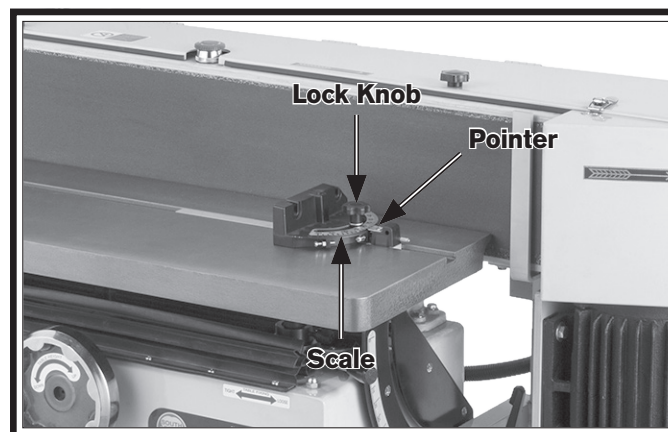

Figure 46. Miter gauge adjustment components.
2. Loosen lock knob shown in **Figure 46**.
3. Rotate miter gauge until pointer on scale indicates desired angle (see **Figure 46**).